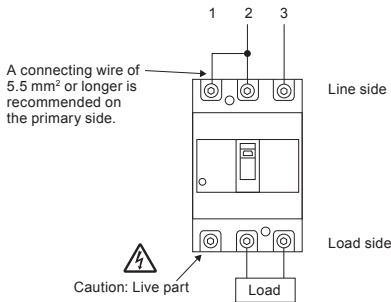

Figure 1. Connection method in a single-phase two-wire circuit
- If using MDU Breaker with a single-phase two-wire circuit, connect it as shown in Figure 1. The left pole (1-phase) load side is a live part, so be sure to insulate it.
- (1) Check that the connection cable is drawn out through the cable outlet port of the MDU Breaker without catching. (Figure 1)
(Figure 1)